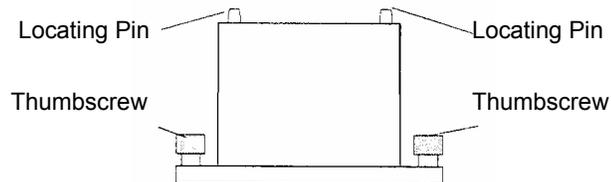

Figure 13 Fitting the plinth to the baseplate in the sample compartment
1. Lower the plinth so that the two locating holes slip onto the two locating pins on the baseplate in the sample compartment, as shown in Figure 13.